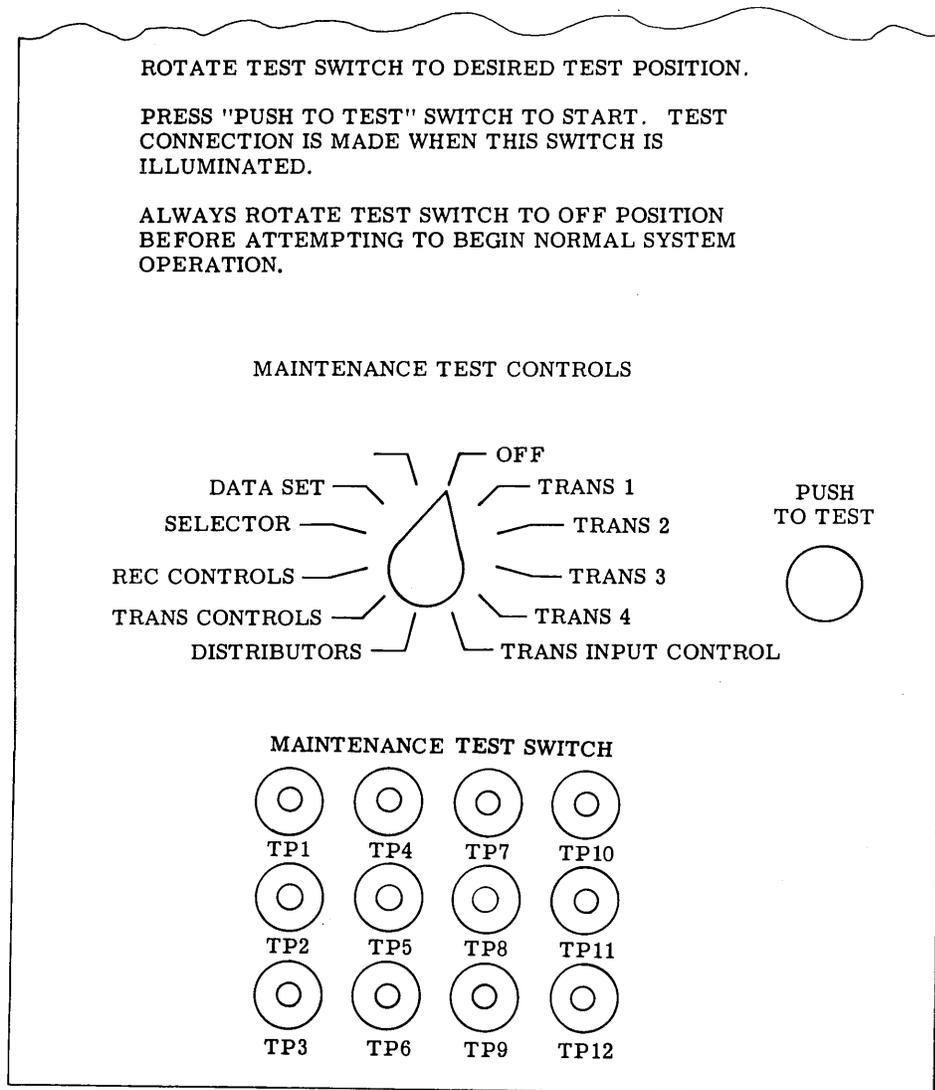

Figure 4 - Operating Instructions
4.02 To use the 905C data test set on a specific High Speed Data Selective Calling System, that station must be contacted and instructed to place the MAINTENANCE TEST CONTROLS on the receiving distributor module of their station controller to the positions required for a given test. Figure 4 shows the controls and instructions as they appear on the receiving distributor module. Refer to the appropriate BSP section for details.
- 4.06 An operator at the system location should be instructed to place the MAINTENANCE TEST SWITCH (Figure 4) to TRANS CONTROLS position and depress PUSH TO TEST switch. When verification is received that the PUSH TO TEST switch is illuminated, proceed with test.